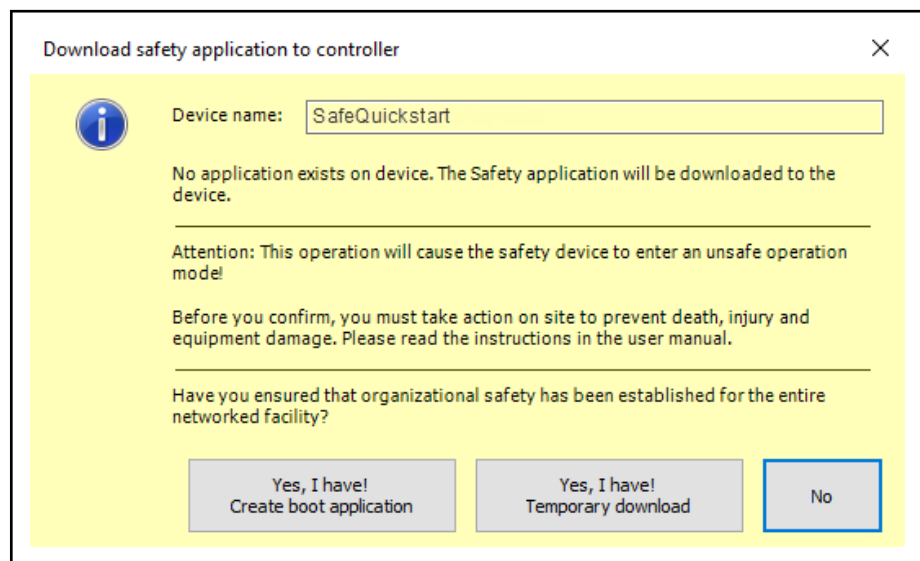

Fig. 8-3: Dialog box when logging in to an "empty" control
- If there is no application on the control, a dialog box asks if the application should be loaded to the safety control (see fig. 8-3 "Dialog box when logging in to an empty control" on page 120). If the application is loaded (download) to the safety control, the safety control is in **Debug Operation**. The application is in online mode.